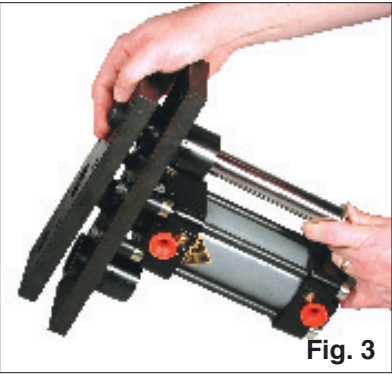

Fig. 3
5. Slide the right guide rod up until it rests against the upper plate. Tighten the screw just enough so that it is holding the rod in place, do not tighten all the way (Fig. 3).